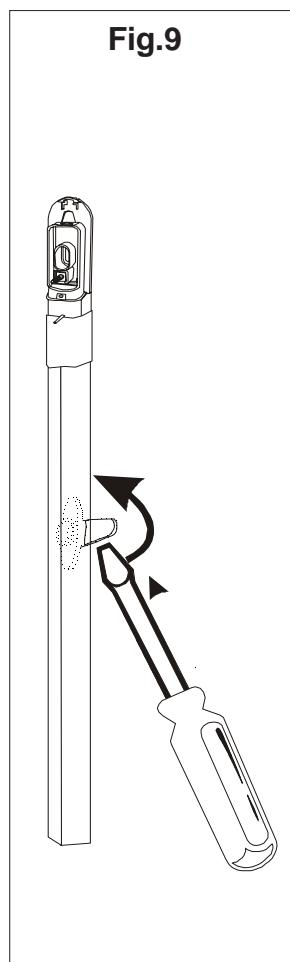

Fig.9
- Push the fins of the intermediate blocks with a screwdriver so that they rotate (Figure 9).